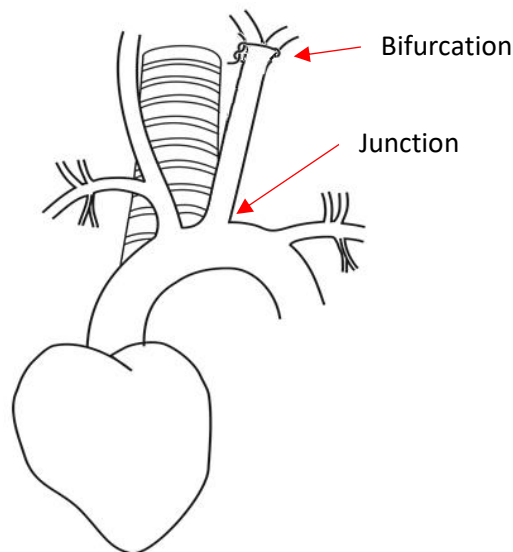

Figure 3: Suture tie at carotid bifurcation and junction of left carotid artery to aortic arch
- 14) Locate the left carotid artery and the suture at the bifurcation. (Figure 3)